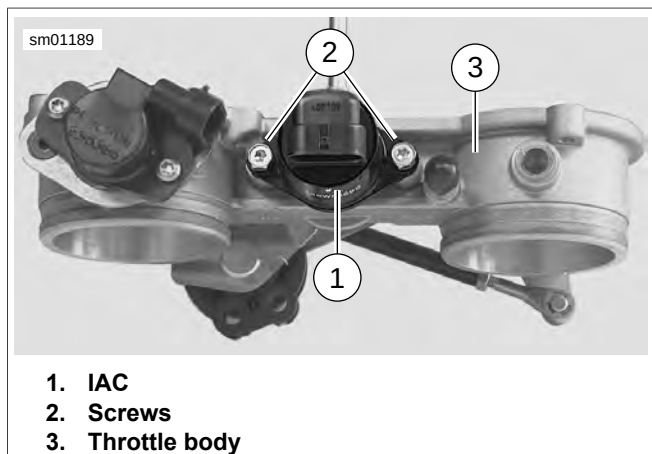

Figure 4-12. IAC Removal
6. See Figure 4-12. Apply heat to idle air control screws (2) with heat gun to loosen locking patch. Remove screws.
7. Pull IAC (1) and O-ring from throttle body (3).
4. See Figure 4-12. Install IAC screws.
- a. Apply LOCTITE 243 MEDIUM STRENGTH THREADLOCKER AND SEALANT (blue) to screws (2).
- b. Loosely install front and rear IAC screws (2).